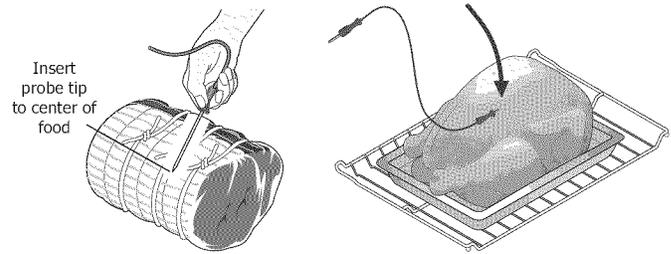

Figure 16: Probe in thickest area of food
Do not use kitchen utensils to pull on the probe cable or handles. Always insert and remove the probe using the provided handles, as shown in Figure 16, and always use a pot holder to protect hands from possible burns.
- Insert the probe so that the probe tip rests inside the center of the thickest part of meat or food (See Figure 16). For best results, do not allow the probe temperature sensor to contact bone, fat, gristle, or the cookware.
- For whole poultry or turkey, fully insert the probe sensor into the thickest part the breast (See Figure 16).